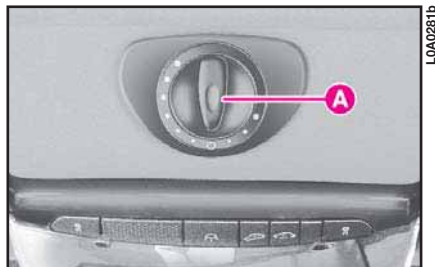

fig. 184
All the sunroof functions (opening, closing and rear pivoting) are controlled by selector **A** (**fig. 184**).
1) turn selector A clockwise and fully to its stop, to position 3 corresponding to maximum pivoting (fig. 184)